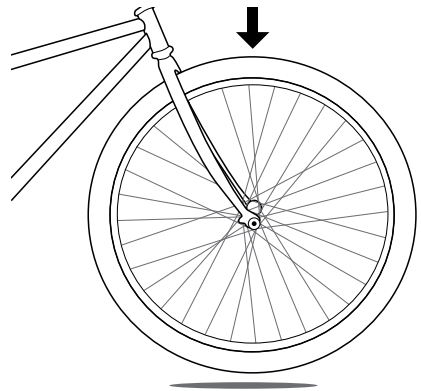

Figure 38. Lift the front tire off the ground and hit the top with your hand to test for looseness.
- + Test A. Lift the bicycle and sharply hit the top of the tire (Figure 38). The wheel must not come off, be loose, or move from side to side.